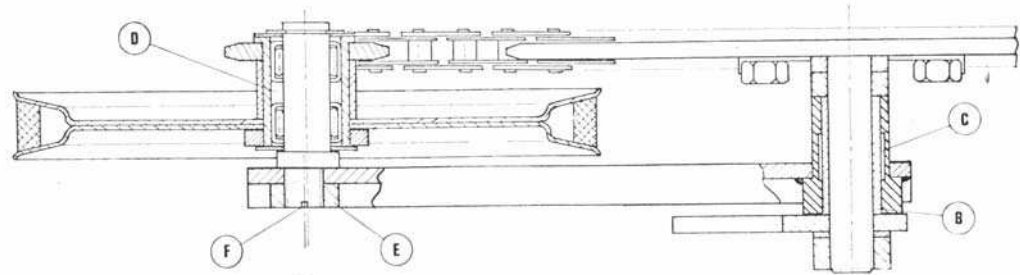

fig. 23
To adjust the tension of the chain (fig. 23):
- to fill the little tank (C) fig. 23 with soap grease;
- to fill the little tank (D) fig. 23 with litium grease.
8.5 Jamming of the reduction unit oscillating support (fig. 23)
Disassemble as in sec. 6.4 and check if the bushings (fig. 23-B) is lubricated.